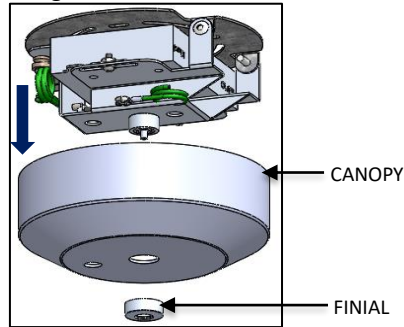

FIG. 6 – CANOPY DIS-ASSEMBLY
1. Unscrew CANOPY FINIAL and remove CANOPY. Be careful not to scratch finish as shown in FIG. 6.